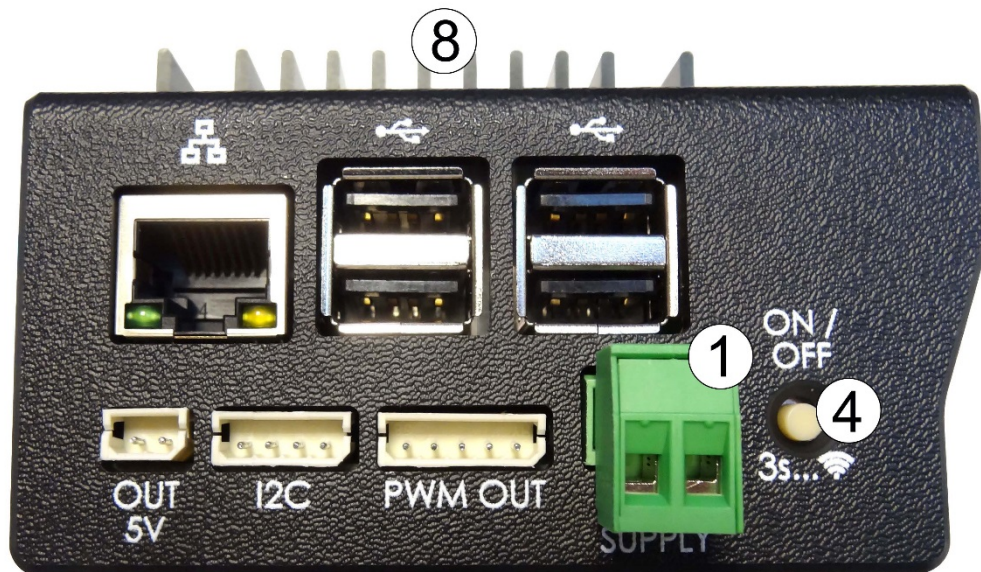

Figure 2 – Top panel connections of MODBUS RS485 Module for CAIRSENS
- On the top panel of the MODBUS RS485 Module for CAIRSENS, the connectors have the following functions (see Figure 2) :
- (1) Mains power supply in direct current, 8-30 VDC, 2A. Power supply not provided. 2-point male connector provided. Input is not polarized.
- (4) ON WIFI button to access the WEB configuration page (see section 8).
- (8) Heat sink.